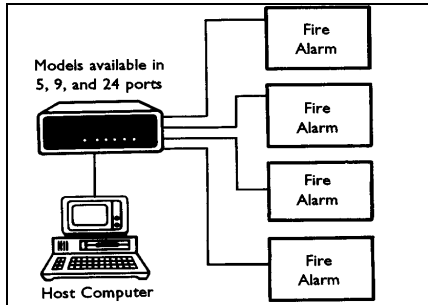

Figure 3: ES Series Application
The 524ES(P) models have one host port and four peripheral ports. The 528ES(P) models have one host port and eight peripheral ports. The Model 5218ESP has one host port and seventeen peripheral ports. *Figure 3* below shows a typical application using an ES Series multiport controller.